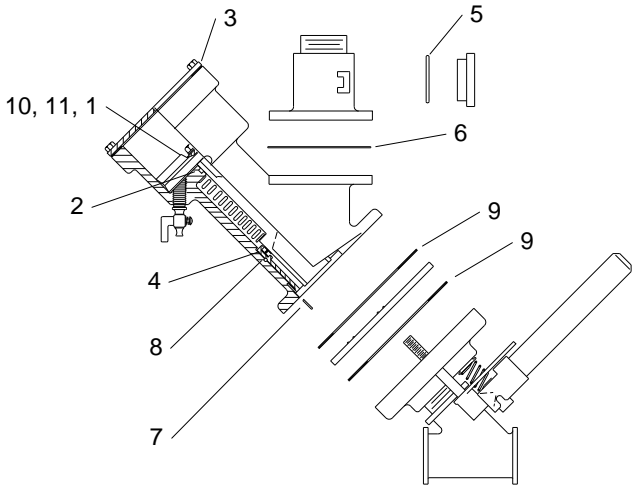

Figure 6
- (-) Service kit, upper segment, Figure 6 .....22388